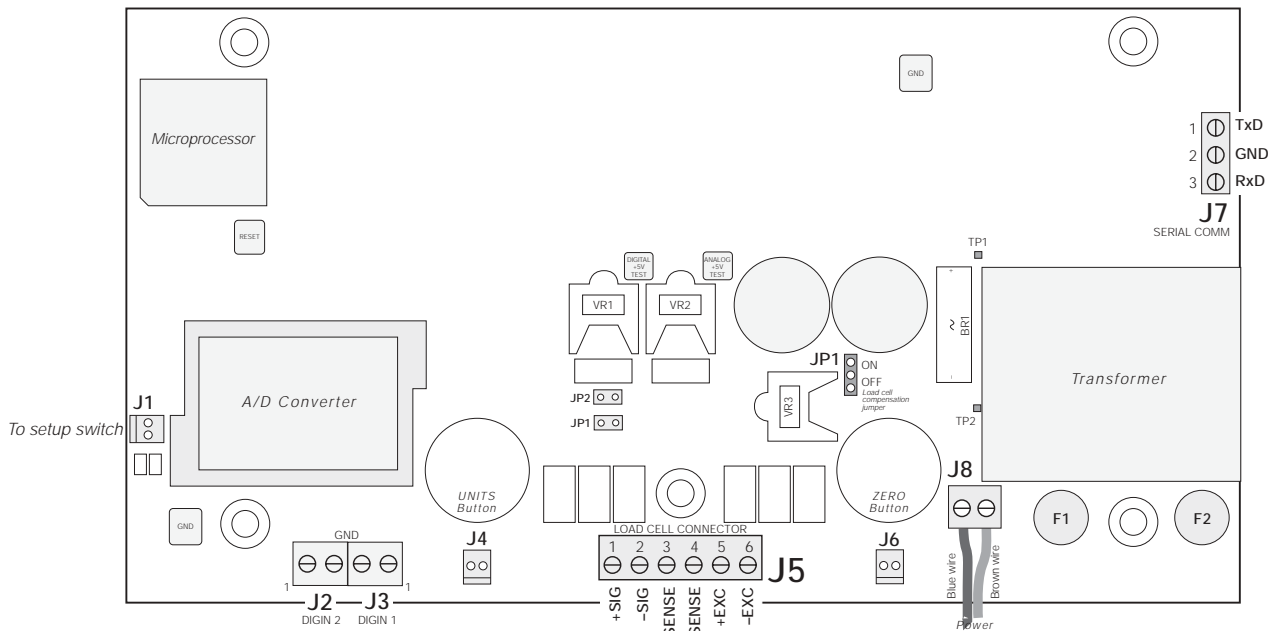

Figure 2-2. IQ plus 210 CPU and Power Supply Board
Wire the load cell cable to connector J5 as shown in Table 2-1. If using 6-wire load cell cable (with sense wires), remove jumpers JP1 and JP2 (see Figure 2-2). For 4-wire installation, leave jumpers JP1 and JP2 on.
The load cell compensation jumper (above the ZERO button location on the CPU board; see Figure 2-2) must be set for the type of load cell connected to the indicator:
2. Remove connections to J5 (load cell cable), J7 (serial communications), J2 and J3 (digital inputs), J4 and J6 (piezo button inputs), and J1 (setup switch). Remove blue and brown power input wires at J8. See Figure 2-2 on page 4 for connector locations.